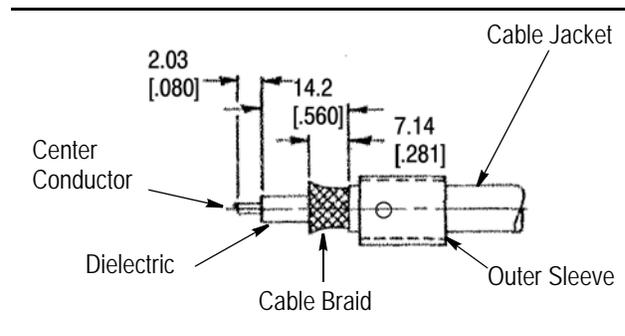

Figure 2
- Place the outer sleeve on the cable as shown in Figure 2.
- Trim the cable braid to length, as shown in Figure 2.
- Trim the dielectric to length, as shown in Figure 2.
- Trim the center conductor to length, as shown in Figure 2.